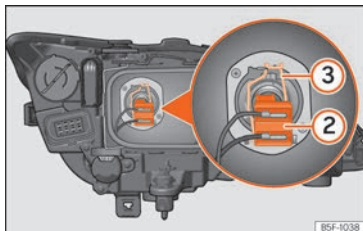

Fig. 55 Dipped beam headlights.
- Remove connector » **Fig. 55** ② from the bulb.
- Unclip the retainer spring » **Fig. 55** ③ pressing inwards to the right.